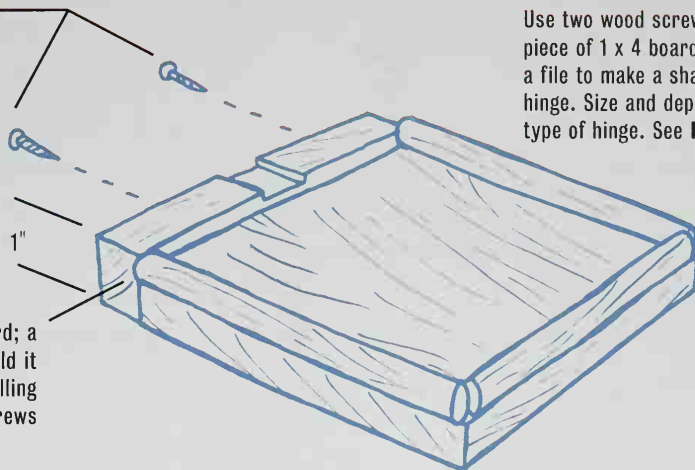

Fig. 2
3. Using Fig. 2 as a guide, use a small file to make a groove on a 1"-wide piece of a 1×4 board so a small hinge can be attached to it. (See also Fig. 3.) After you have made the groove, glue this piece to the base as shown. For additional strength, you can use two wood screws as shown.